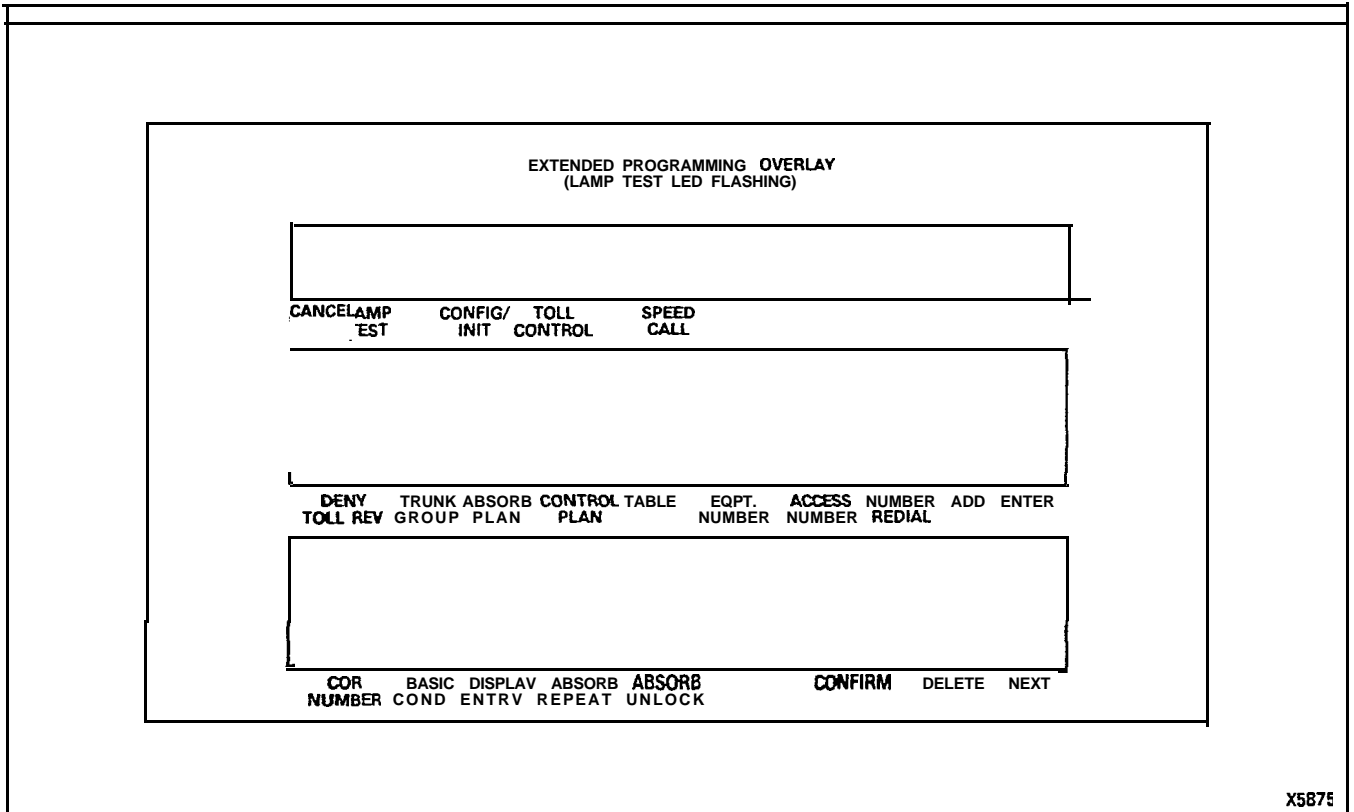

Figure 3-1 Programming Console Overlay
3.09 The personal tables are programmed in the Extended Programming Mode. This includes assignment of tables (and Saved Number Redial enabled if required). Section MITL9105/9110-096-210-NA details this procedure, and Figure 3-1 shows the Extended Programming Overlay which is used for this procedure.